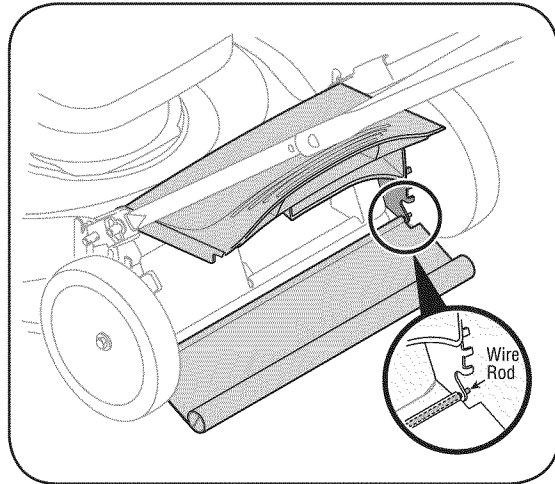

Figure 5-2: Cut wire to remove rear flap.
1. To remove rear flap, cut off the flat end of the wire rod which secures it to the deck. See Figure 5-2.